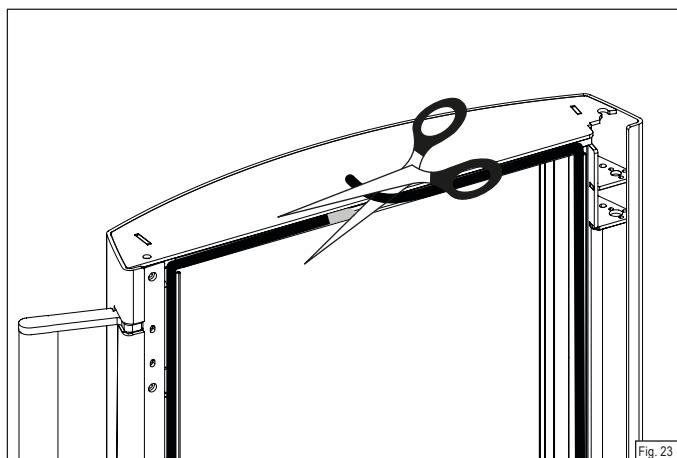

Fig. 23
- Start installing the seal at the middle of the rail at the top of the firebox door. Push the seal evenly into the rail (Fig. 22). Allow the end to protrude slightly and trim the seal flush (Fig. 23).